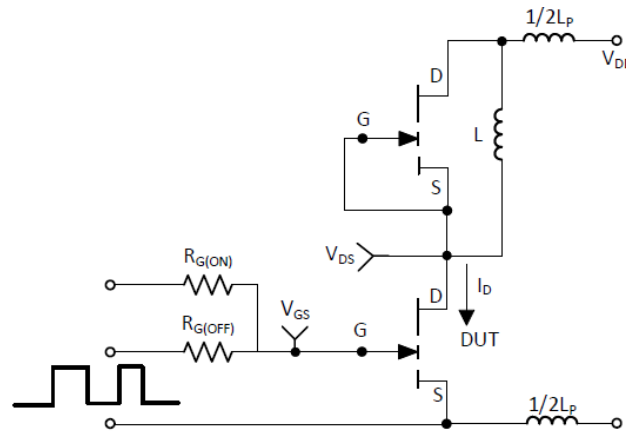

Figure 16: Switching Loss Test Circuit
(6) L_P is the switching circuit parasitic inductance.
(7) See Figure 16 for switching loss test circuit.